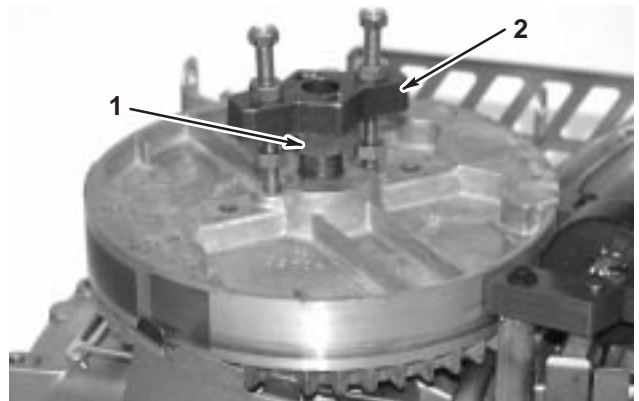

Fig. 14 – Removing Flywheel
8. Then turn upper nuts down onto puller body. Turn both nuts equally until flywheel pops loose, Fig. 14.